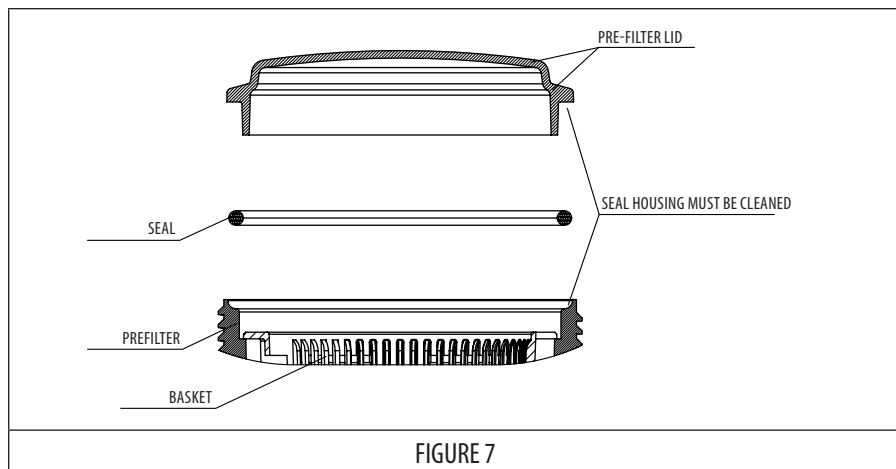

FIGURE 7
- Every time the prefilter is opened, clean off any dirt on the seal and its housing to ensure the cover is watertight when closed (FIGURE 7).